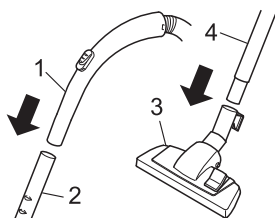
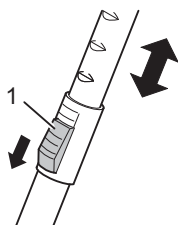

Fig. 3
Fig. 4
2. Insert the handle (Fig. 3/1) into the upper end of the telescopic tube (Fig. 3/2).
3. Attach the floor nozzle (Fig. 3/3) to the bottom end of the telescopic tube (Fig. 3/4).
4. Adjust the length of the telescopic tube. Press down the release latch on the tube to (Fig. 4/1) do this. Then pull the handle of the telescopic tube to extend (Fig. 3/1) it to your desired length. Let go of the release catch while pulling until it locks in place. You will hear a distinct click.